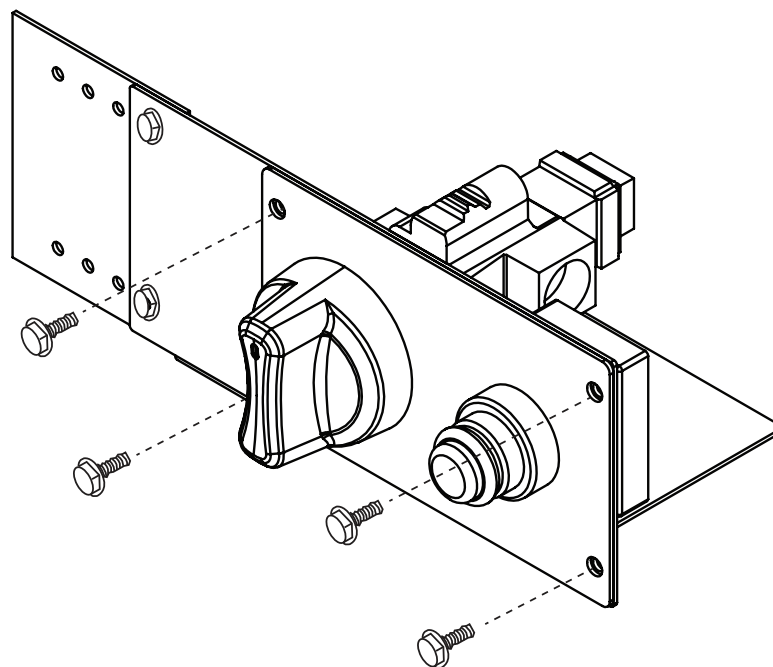

Fig. 9 Close up view securing TPSI valve bracket to control panel.
PRECAUTION: Ensure the PAVER-CP-TPSI control panel is within 40-inches of the 2-probe Piezo ignitor. This will allow enough “play” in the wires to make your connections. See Fig. 9.
STEP 9: After burn test is complete, finish the patio paver block installation by securing the TPSI valve bracket into place using the (4) stainless thread cutting screws. See Fig. 9.